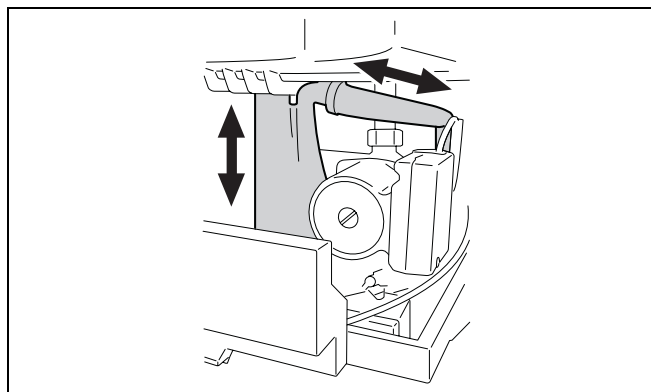

fig. 54 Cleaning the syphon
- Remove the syphon (fig. 54).